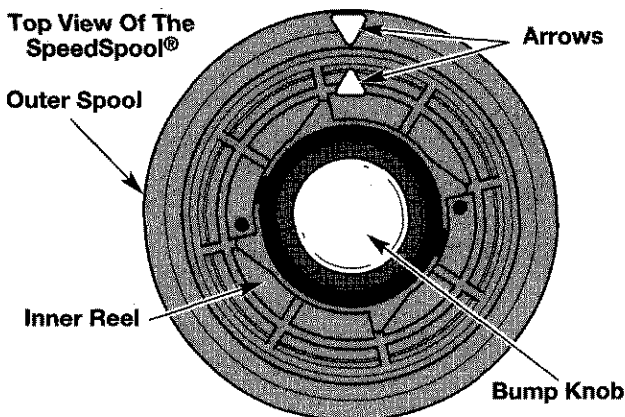

Fig. 19
2. Hold the outer spool and turn the inner reel counterclockwise to line up the arrows on the outer spool and inner reel (Fig. 19).